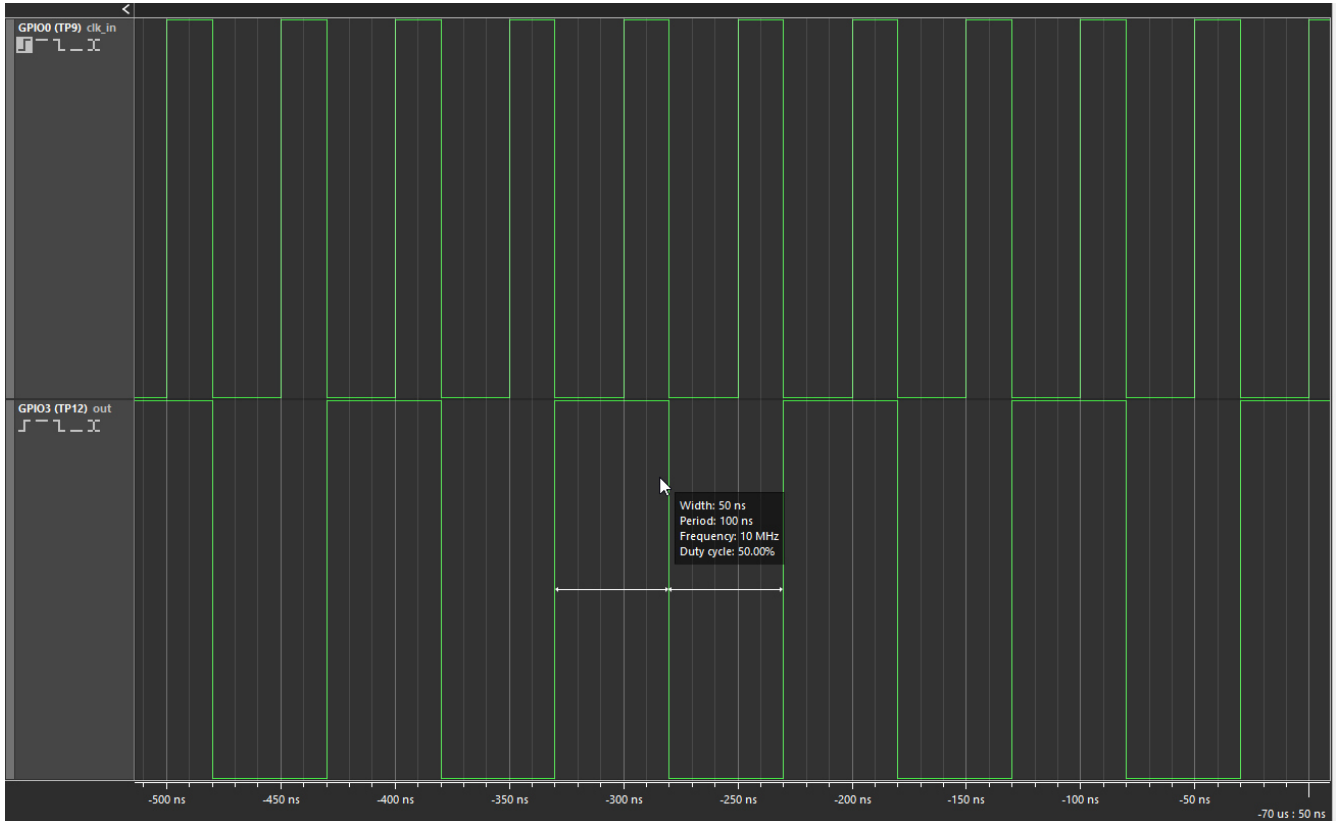

Figure 4: Waveform using External Clock
9. Connect the GPIO0(clk\_in) to the Synchronous Logic Generator and produce 1 MHz clock frequency on it and observe the output from GPIO3 on built-in Logic Analyzer(Figure 4). The input frequency will be divided by two due to flip-flop connected to the output.